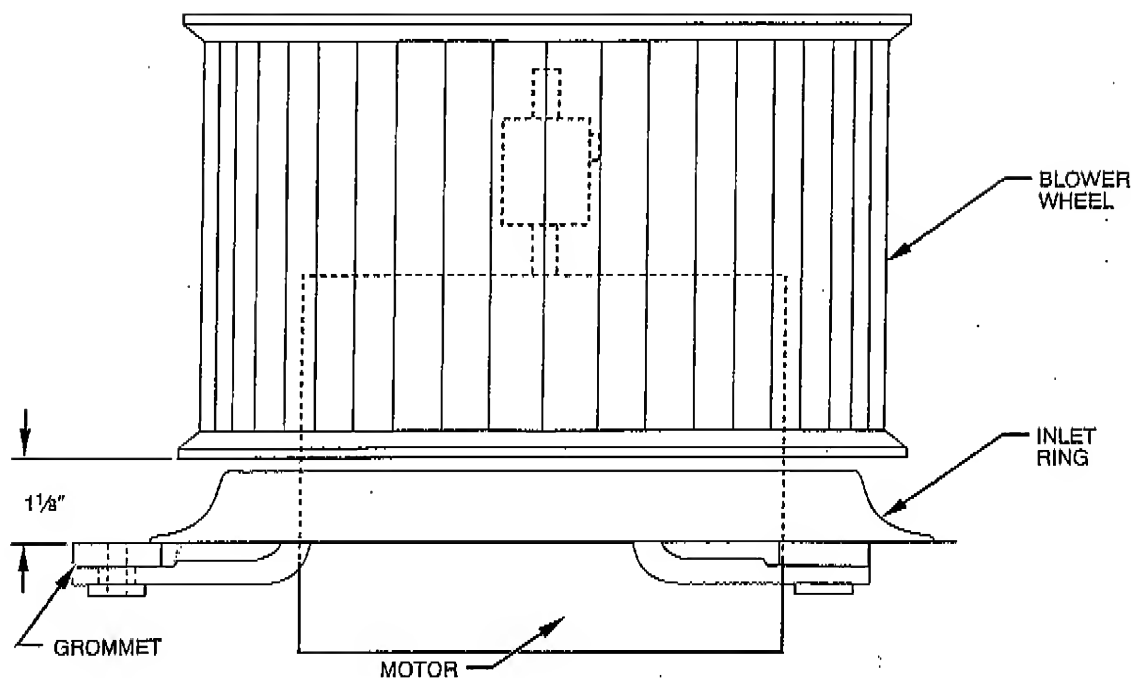

Fig. 17—FF1A/FF1B Motor, Inlet Ring, and Blower Wheel Assembly
**NOTE:** If previous shaft was not marked or if replacing previous motor, set blower wheel position by sliding blower wheel along motor shaft to 1-1/8 in. above rubber grommets. (See Fig. 17.)